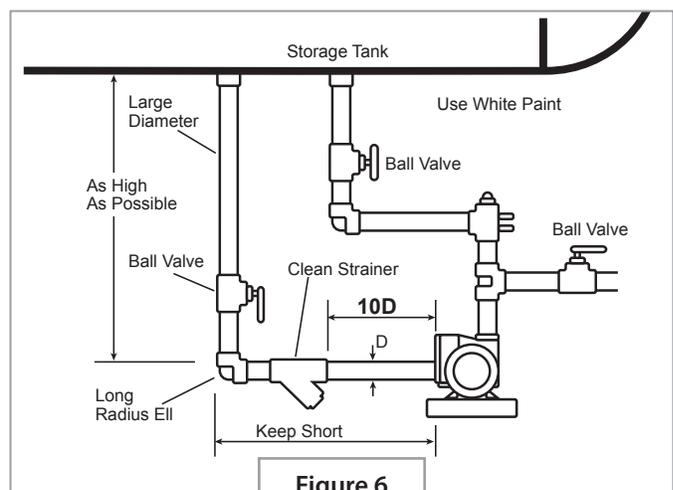

Figure 6
- B. This final section of straight pipe should be a minimum of 10 times the pump inlet diameter (i.e., 2" inlet = 20" of straight pipe), and threaded or flanged directly to the pump inlet, with no additional fittings. **Figure 6**